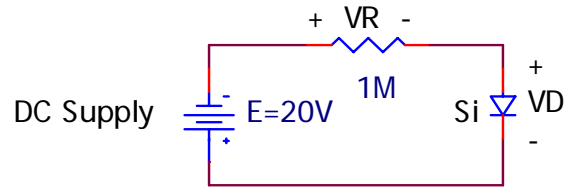

Fig. 2.2
1. Construct the circuit of Fig. 2.2 with E is set at 20V. Record the measured value of the resistor.